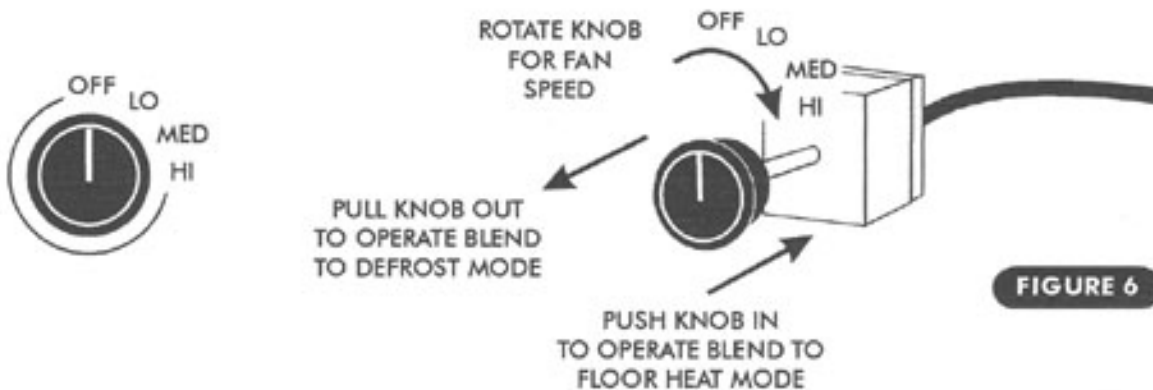

FIGURE 6
- START ENGINE AND RUN UNTIL NORMAL OPERATING TEMPERATURE IS REACHED. PLACE SWITCH IN DESIRED HEAT POSITION (SEE FIGURE 6, PAGE 9) AND SELECT FAN SPEED. THE SYSTEM WILL HEAT THE VEHICLE.